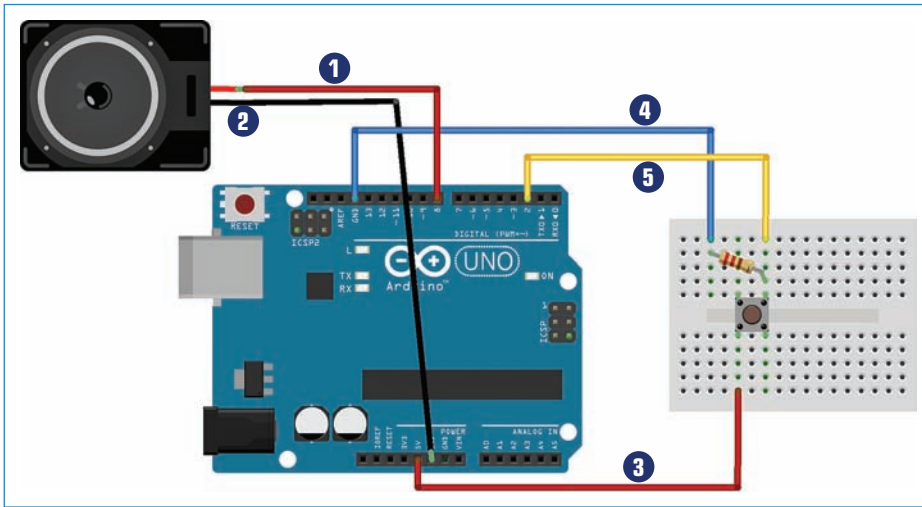

FIGURE 10.8 Wire up your Arduino as you see here.
This project is pretty easy to assemble. Just follow the wiring diagram shown in Figure 10.8 to see where to place the wires.
- ❶ Plug an 8-ohm speaker in to pin 8 (the red wire in Figure 10.8).
- ❷ Plug the GND (black wire) from the speaker to the Arduino.
- ❸ Connect the 5V port of the Arduino to one lead of the pushbutton. This is the green wire in Figure 10.8.
- ❹ Connect the other lead of the pushbutton to GND, via the resistor (the blue wire).
- ❺ Connect the pushbutton to pin 2 on the Arduino (yellow wire).